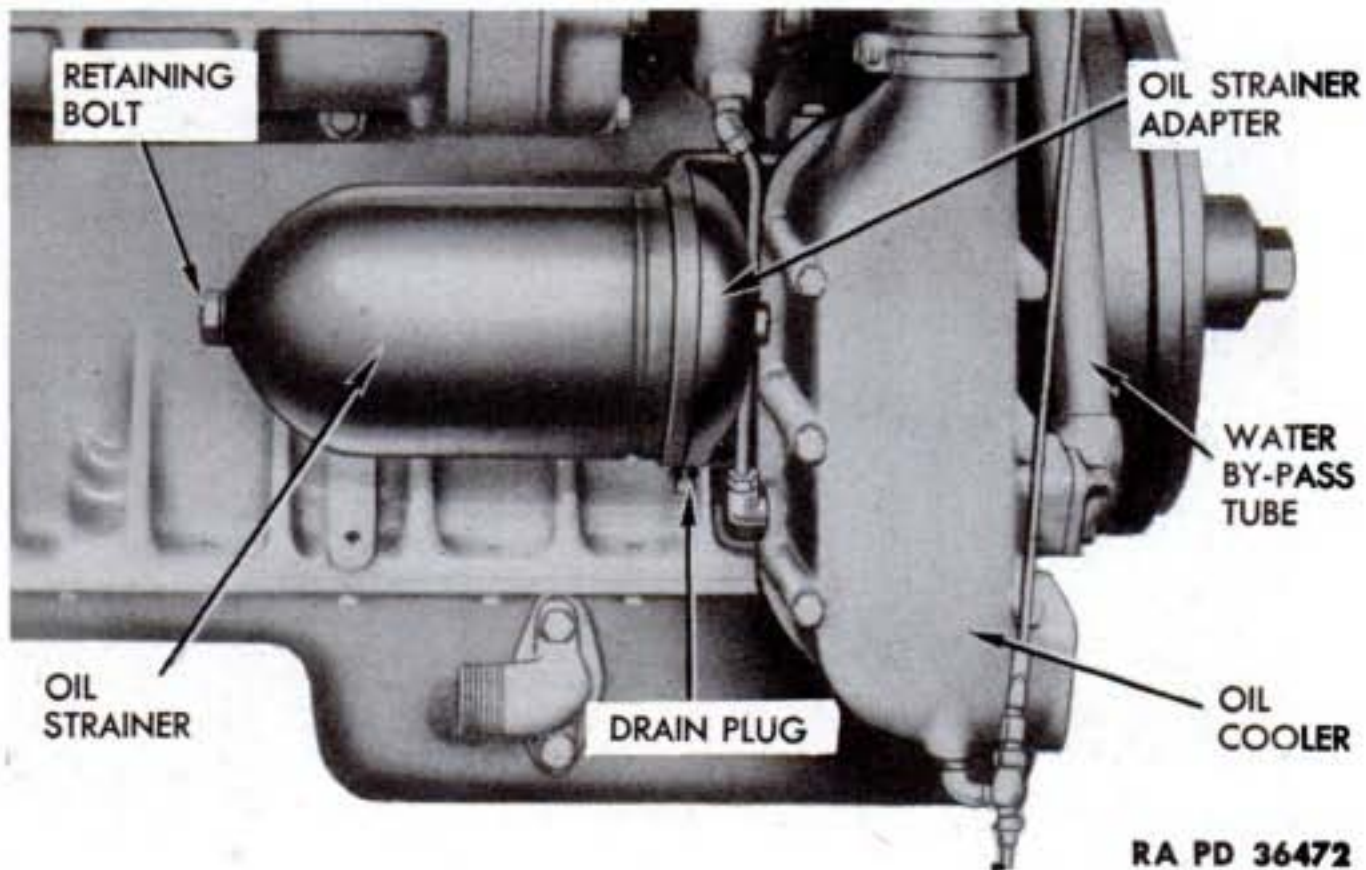

Figure 35—Engine Lubricating Oil Strainer
a. Description. The oil strainer mounted on the oil cooler adapter on each engine (fig. 35) strains carbon particles and dirt out of the oil drawn from the supply tank before it is pumped through the engine oiling system (fig. 34). Oil enters around the outside of the element, is strained through a fine mesh screen and from the inside of the strainer element the oil flows into the oil cooler (fig. 36).